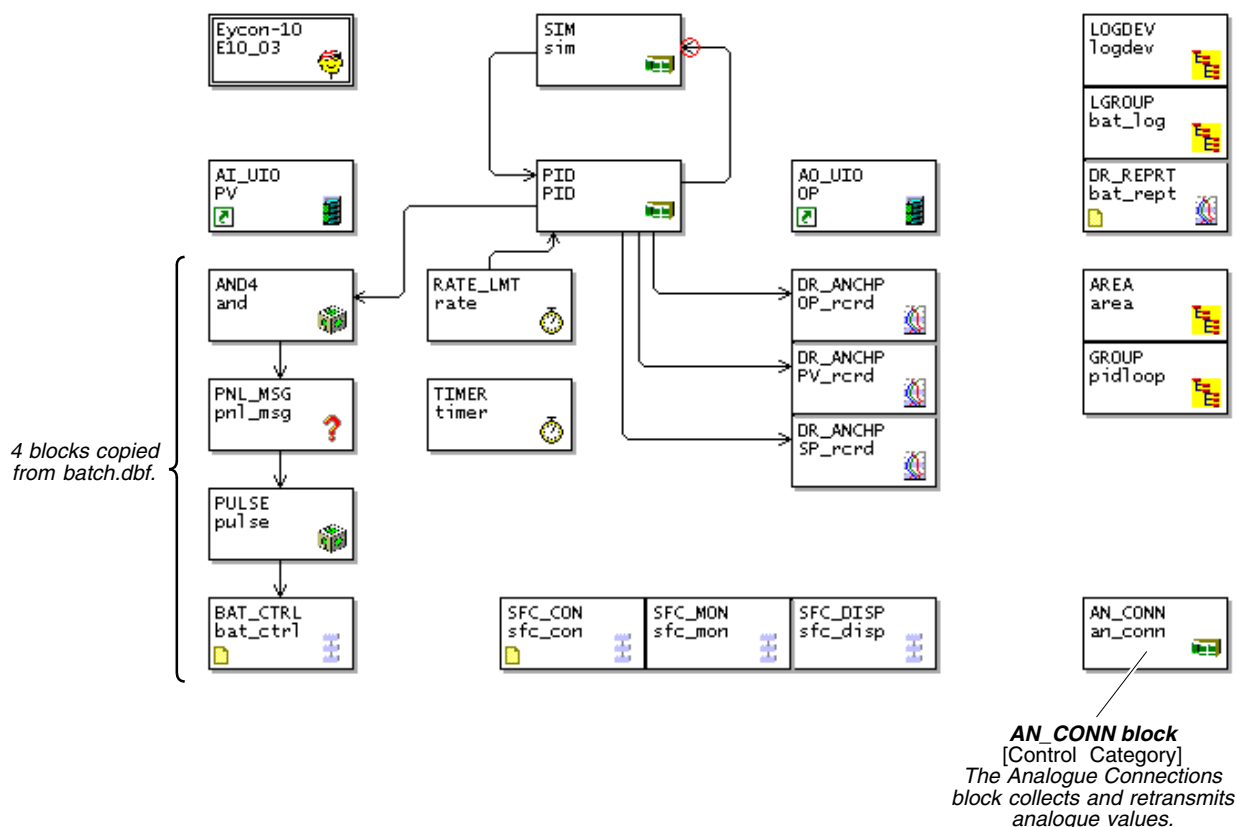

Figure 8-7 Adding batch and recipe to the sequence strategy
To enable the sequence to drive the batch engine you will add batch (and recipe) functionality to the existing sequence strategy. The quickest way to do this is to copy and paste the required blocks from an earlier strategy into the new one. Figure 8-7 shows the result you are aiming for.
- 3 In the 'batch.dbf' window, multiple-select the **LOGDEV**, **LGROUP**, **DR_REPRT**, **RCP_SET**, and **RCP_LINE** set of five blocks. Copy and paste them onto the 'seq.dbf' window in the positions shown in Figure 8-7. You can do this either by using <Ctrl-C> (copy) and <Ctrl-V> (paste), or simply by dragging the selection from one window to the other.